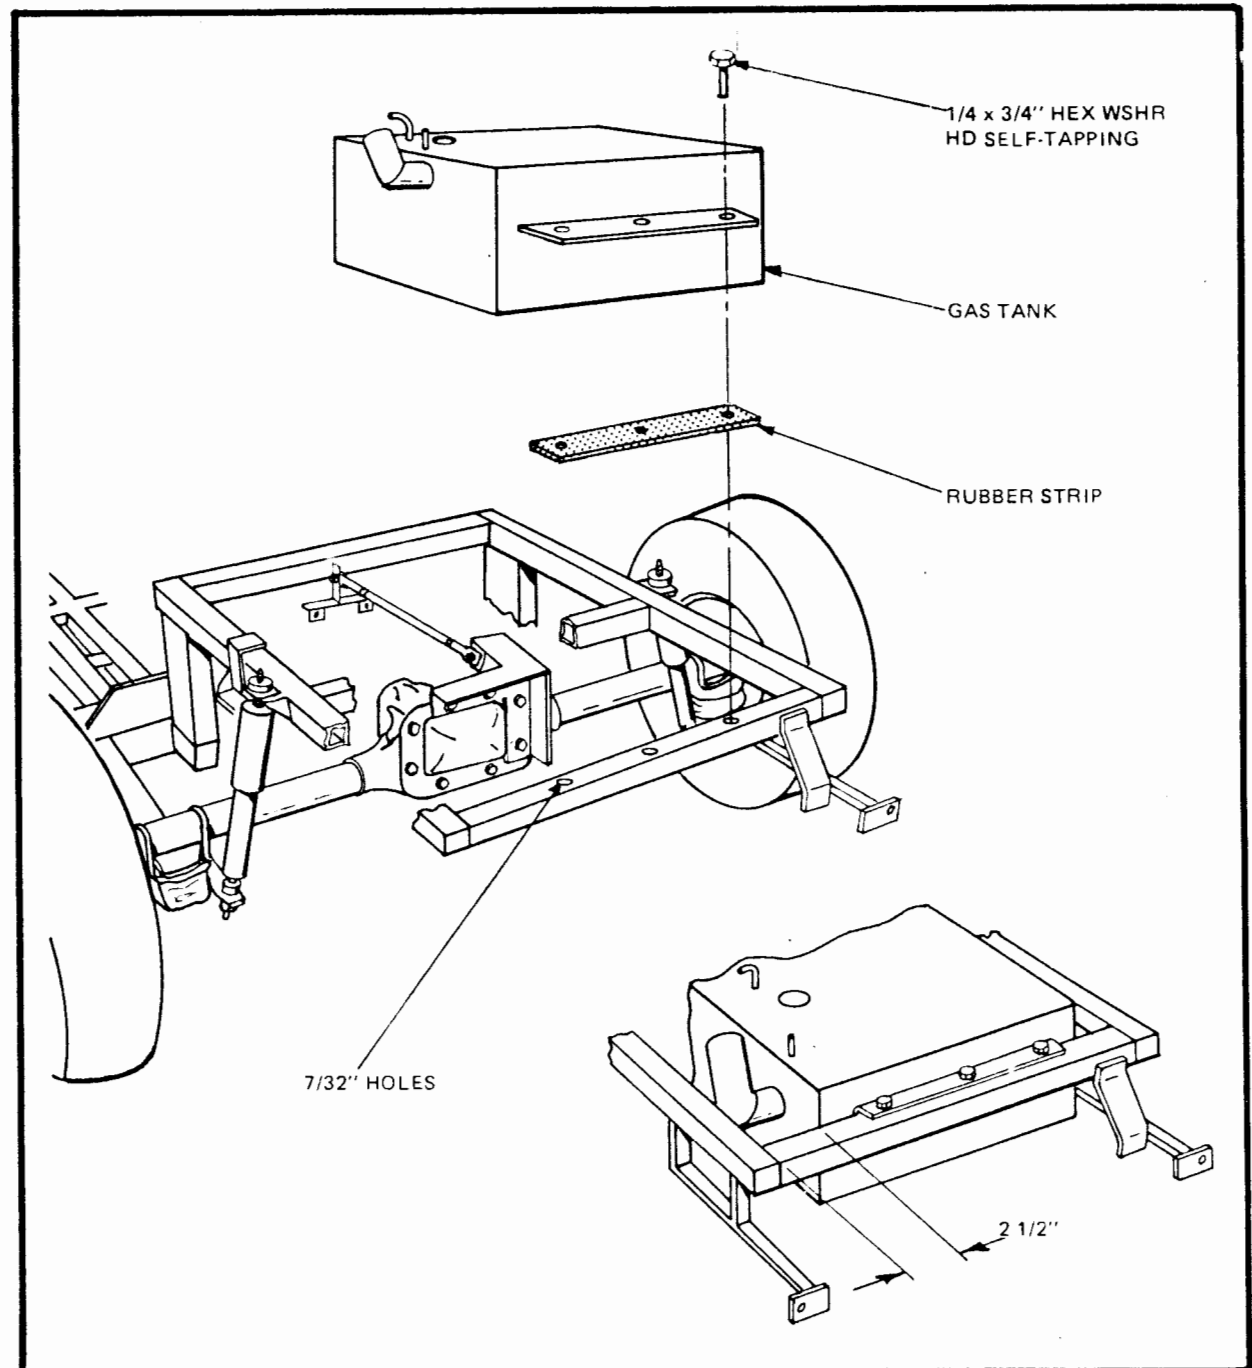

Figure 10
- Drop gas tank between rear frame members, with the angled gas filler on the left. Position tank $2 \frac{1}{2}''$ from side of frame. Mark hole locations. Remove tank and drill $7/32''$ holes at marked location. Glue strips of rubber matting to top of frame where it will contact gas tank flange. Reinstall tank and secure with $1/4 \times 3/4''$ hex washer head self-tapping screws. (Figure 10)